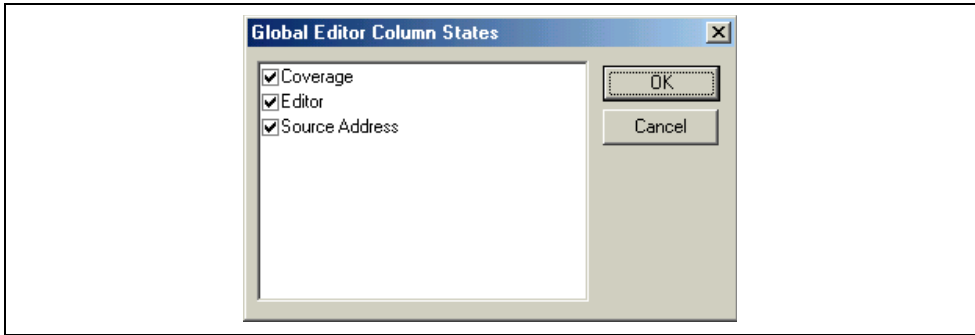

Figure 4.3 Global Editor Column States Dialog Box
3. The [Global Editor Column States] dialog box is displayed (figure 4.3).